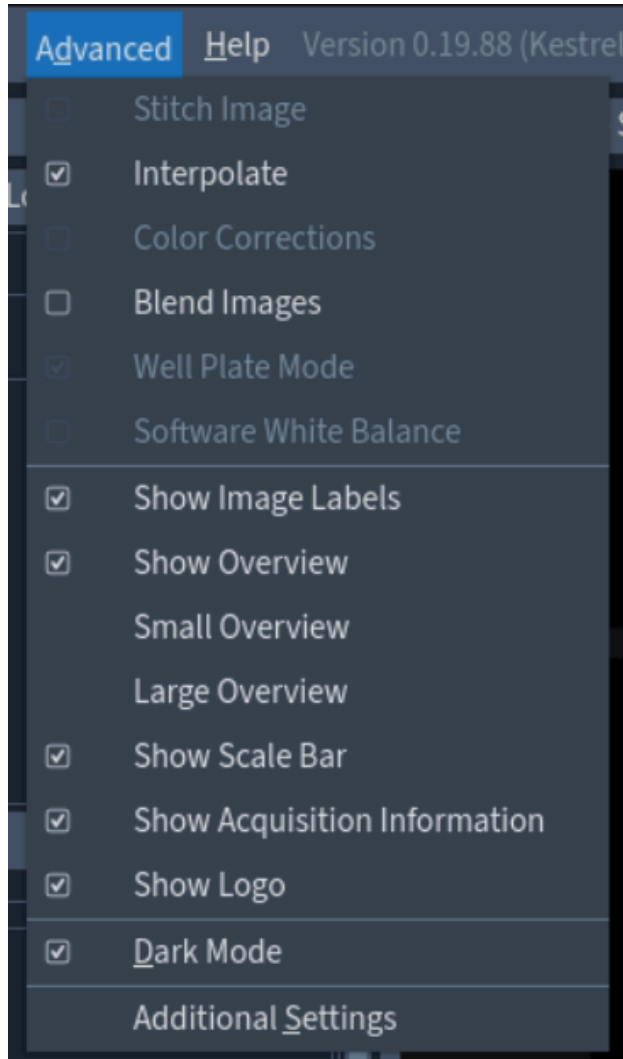
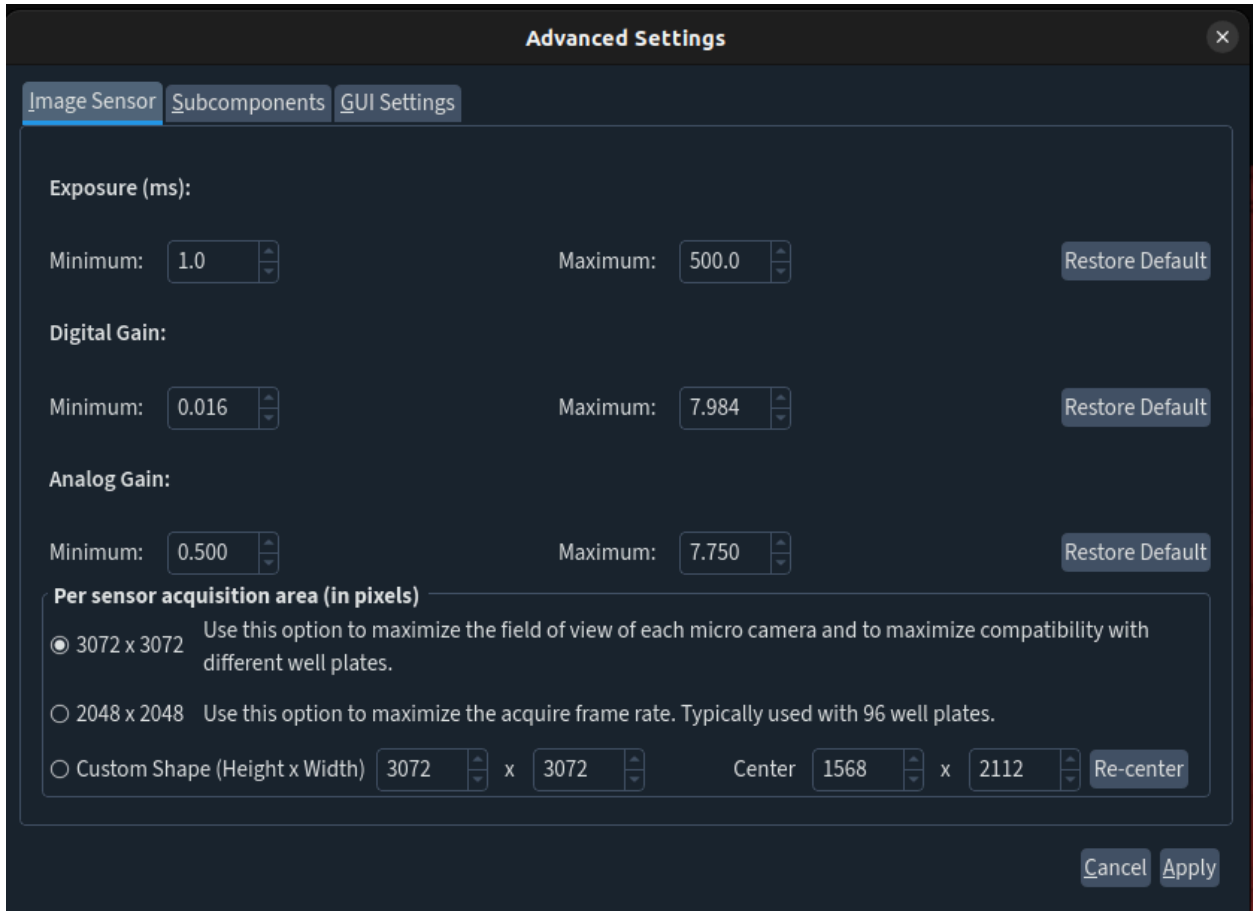

Fig 20: Advanced Menu
Fig 26: Advanced menu, additional settings panel
Additional settings can be found in the “Advanced” menu and are described below (Fig 20).
- 1) Select “Additional Settings” Advanced menu on the toolbar, pictured below (Fig 20, Fig 26).